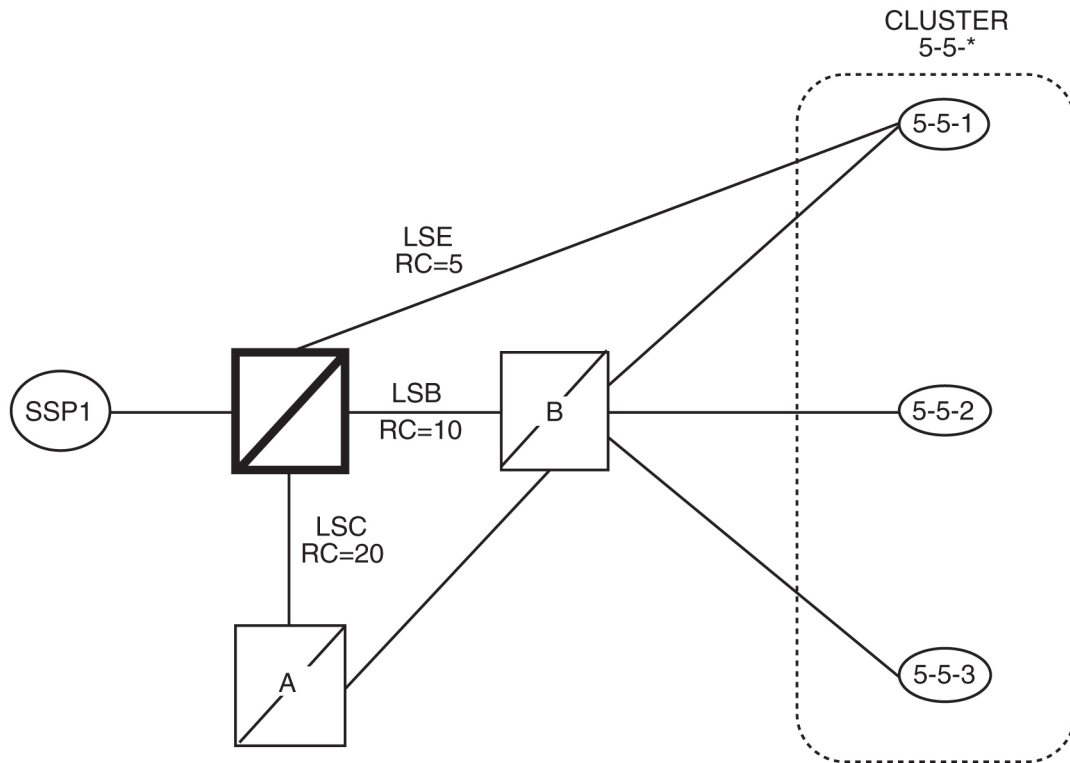

Figure 17: Nested Cluster Routing Sample Configuration
If the `ncai` parameter is `no`, standard command-handler rules apply (any full point code routeset within a cluster must have the same routeset as the cluster). If `ncai` parameter is `yes`, new command-handler rules apply (full point code routeset can be different from the cluster routeset). Figure 17: Nested Cluster Routing Sample Configuration provides an example of provisioning a nested cluster and its associated members.
1. The EAGLE allows the user to enter a full point code routeset entry even if the point code is a member of a cluster that has a different routeset. For example, in Figure 17: Nested Cluster Routing Sample Configuration, the provisioned member 5-5-1 has a different routeset than the cluster's routeset.
For example, in Figure 17: Nested Cluster Routing Sample Configuration, if linkset LSB fails, a TCP message for cluster 5-5-\* is not broadcast because the least restrictive status of provisioned member 5-5-1 is allowed.
3. The EAGLE does not send preventive TCPs when it begins routing toward a nested cluster. The EAGLE sends response-method preventive TFPs if it receives an MSU and there is danger of circular routing. For example, in Figure 17: Nested Cluster Routing Sample Configuration, the EAGLE does not send a preventive TCP for cluster 5-5-\* when routing to cluster 5-5-\* over linkset LSB. However, if the EAGLE receives an MSU on linkset LSB destined for node 5-5-2, the EAGLE discards the MSU and sends a TFP to node B concerning node 5-5-2.
Figure 17: Nested Cluster Routing Sample Configuration provide an example of nested cluster routing. Table 11: Routing Table for Nested Cluster 5-5-\\* and Table 12: Routing Table for Full Point Code Member 5-5-1 show the routing tables for the cluster point code and one of the members of the cluster point code. Table 13: Example of Nested Cluster Routing Failure and Recovery Actions shows what actions the
EAGLE takes when the linksets in a nested cluster configuration fail and recover. The actions in Table 13: Example of Nested Cluster Routing Failure and Recovery Actions are based on the example nested cluster routing configuration shown in Figure 17: Nested Cluster Routing Sample Configuration.